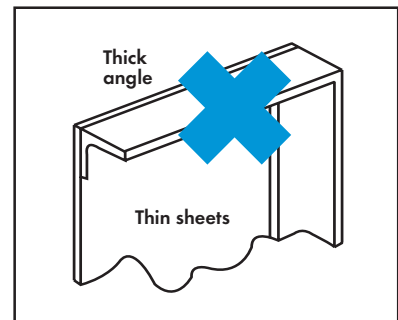

Figure 63.
- Use of sections of a similar thickness (figure 63).